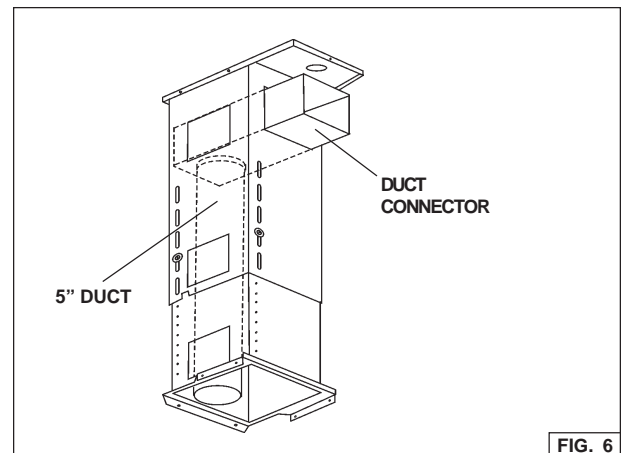

FIG. 6
2. Through the support frame openings fit the duct connector to the plenum locking it with a turning movement. Fig. 6.
recirculation plenum. Fig.6.